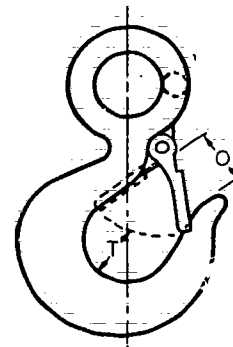

Figure 7-81. Standard Safety Eye Hook
3. A **Standard Safety Eye Hook** is illustrated in Figure 7-81.